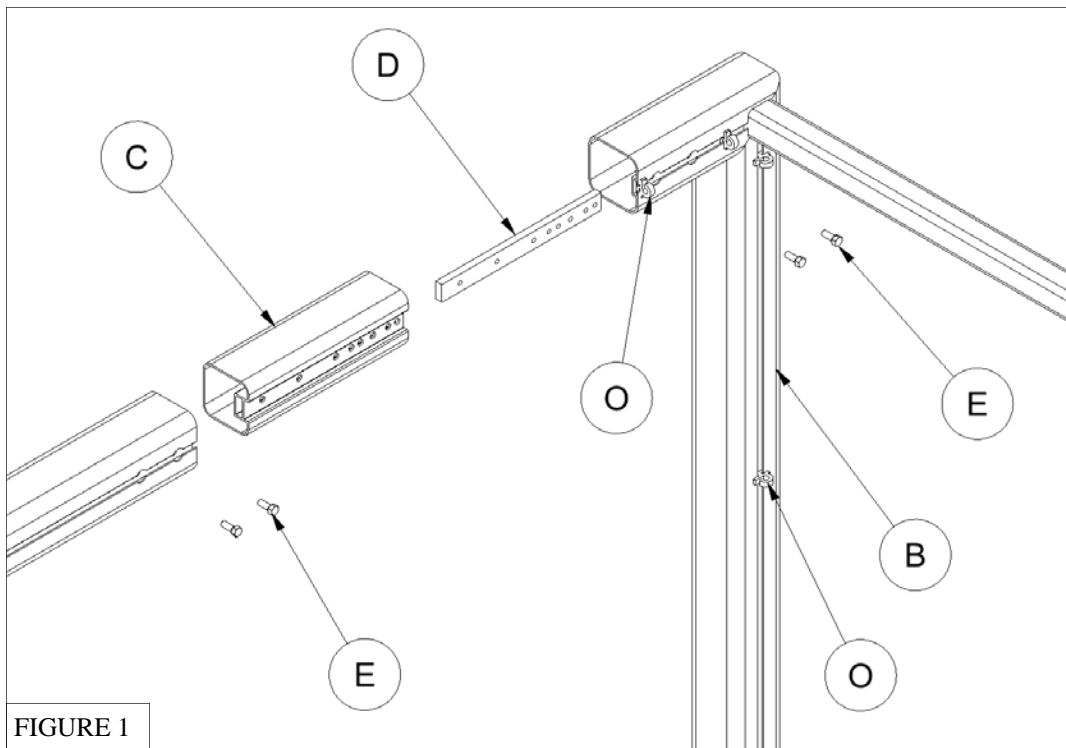

FIGURE 1
1. Slide the *Connecting Bar* (D) into the *Inner Tube* (C) through the channel so that all the holes are lined up as shown. See Figure 1.
2. Lay *Goal Sides* (B) and *Crossbar* (A) on the ground with net attachment tracks facing upward.
3. Inserting the inner tube assembly into the *Crossbar* (A) leaving six holes exposed for the *Goal Sides* (B). Install two 3/8" *Hex Bolts* (E) at each end of the *Crossbar* (A). See Figure 1.
4. Attach *Crossbar* (A) to the *Goal Sides* (B), from #1 above, by sliding *Goal Sides* (B) onto the exposed *Inner Tube* (C) and installing two 3/8" *Hex Bolts* (E) per end. See Figures 1 and 3.